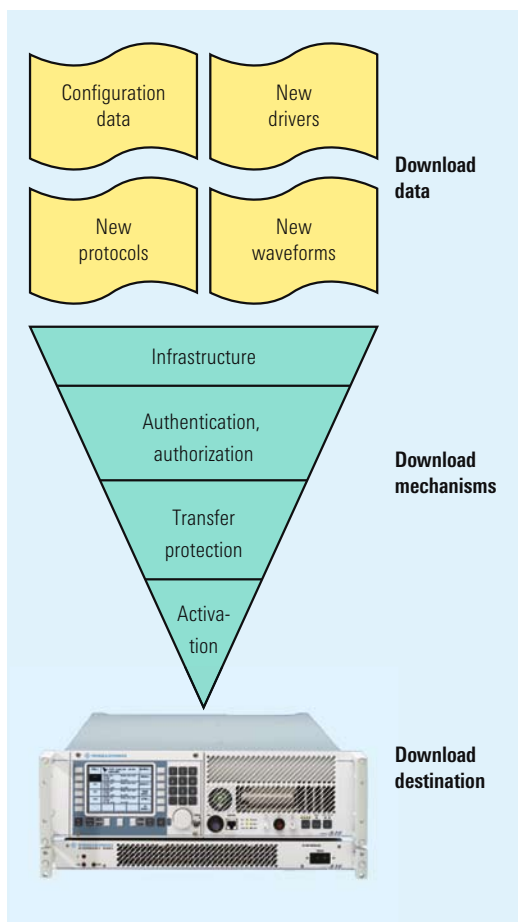

FIG 3 Mechanisms and objects for software download.
- Characteristics of a radio by transferring programs, parts of programs and data (FIG 3). Examples include updating parameter tables for handoff algorithms, updating driver software and expanding functionality by downloading a software package containing a new waveform.